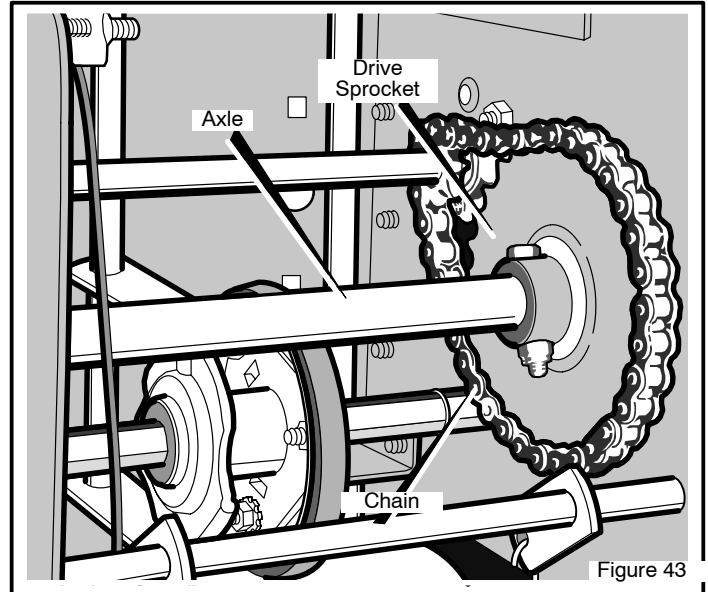

Figure 43
6. Remove the fasteners that secure the **drive sprocket** to the **axle** (see Figure 43).
15. Install the right wheel, **axle**, and **drive sprocket** with the fasteners removed earlier. Install the **chain** onto the **drive sprocket** (see Figure 43).